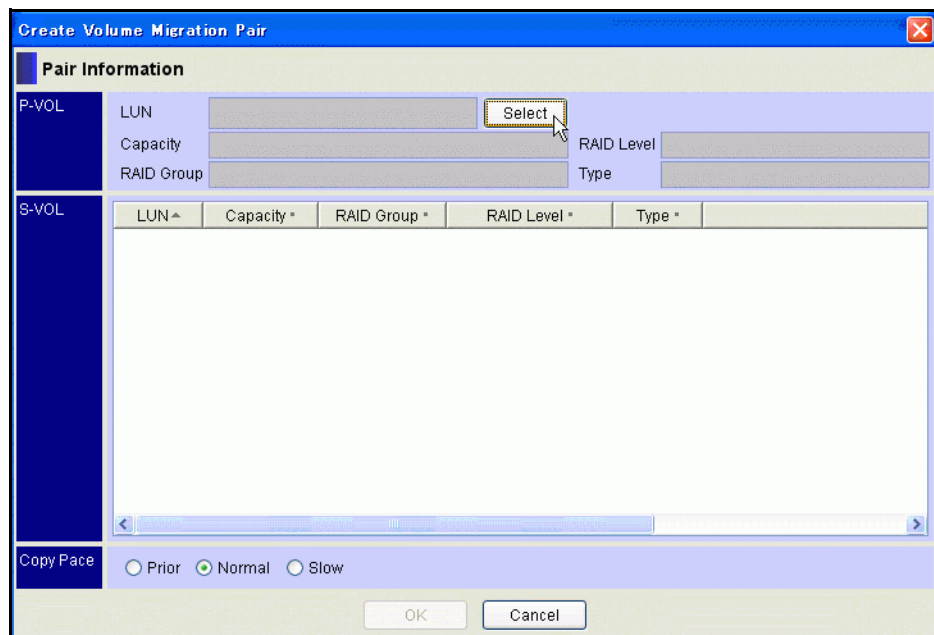

Figure 11-15: Create Volume Migration Pair
8. Click **Select** to specify a P-VOL. The Create Volume Migration Pair window appears, as shown in Figure 11-15.